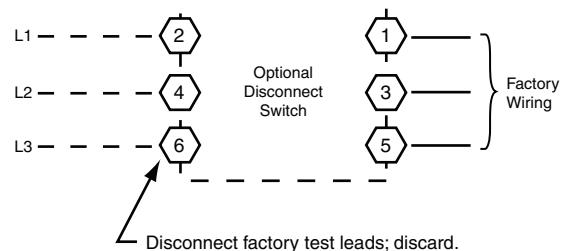

Fig. 17 — Power Wiring Connections
Refer to Fig. 17 for power transformer connections and the discussion on connecting the convenience outlet on page 14.
The factory-installed option non-fused disconnect (NFD) switch is located in a weatherproof enclosure located under the main control box. The manual switch handle and shaft are shipped in the disconnect enclosure. Assemble the shaft and handle to the switch at this point. Discard the factory test leads (see Fig. 17).
All field wiring must comply with NEC and all local codes. Size wire based on MCA (Minimum Circuit Amps) on the unit informative plate. See Fig. 17 and the unit label diagram for power wiring connections to the unit power terminal blocks and equipment ground. Maximum wire size is No. 2 ga AWG per pole.
2. Install power lines to terminal connections as shown in Fig 17.